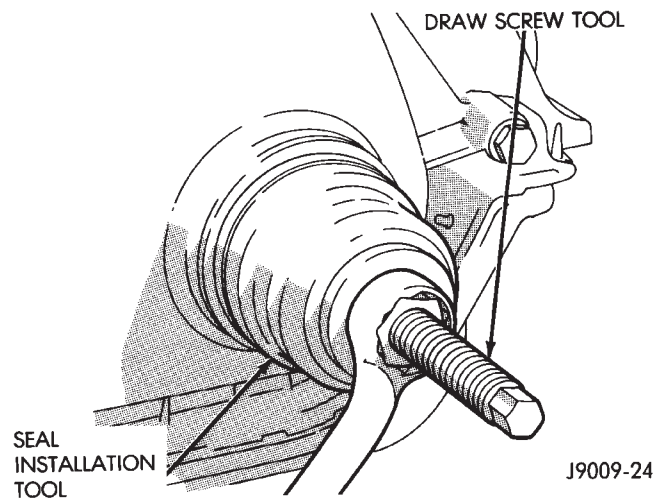

Fig. 3 Timing Case Cover Oil Seal Installation
- (7) Position the tool and seal over the end of the crankshaft and insert a draw screw tool into Seal Installation Tool 6139 (Fig. 3). Tighten the nut against the tool until it contacts the cover.